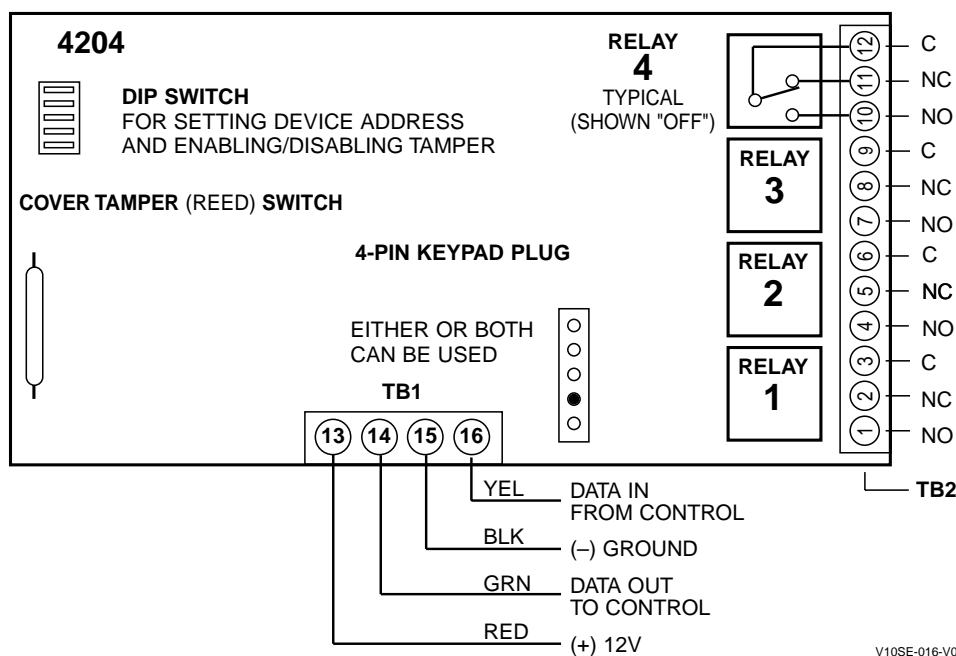

Figure 10. 4204 Connections to Control
3. **Connect the desired field wiring** to the unit's relay contact terminals. See *Figure 10* below.
1. Make 12V (+) and (-) and data in and data out connections from the VIP Module to the control, using the connector cable supplied with the VIP Module (see *Figure 10*).